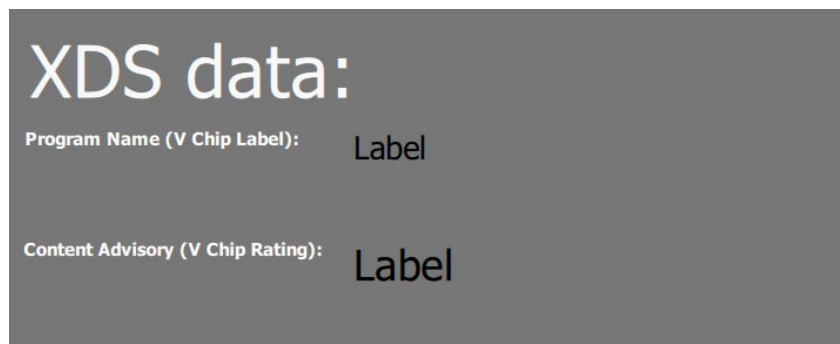

Fig. 5-10: Comment Labels Added to the Tile
- 11 Further comments may be added onto the tile using labels, as shown in Figure 5-10.